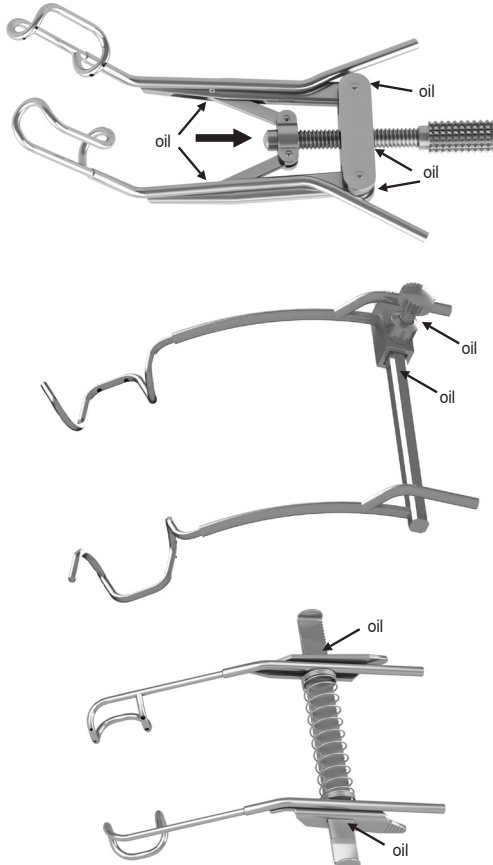

Fig. 5
- Apply the instrument oil selectively on the area that needs it (fig. 5).